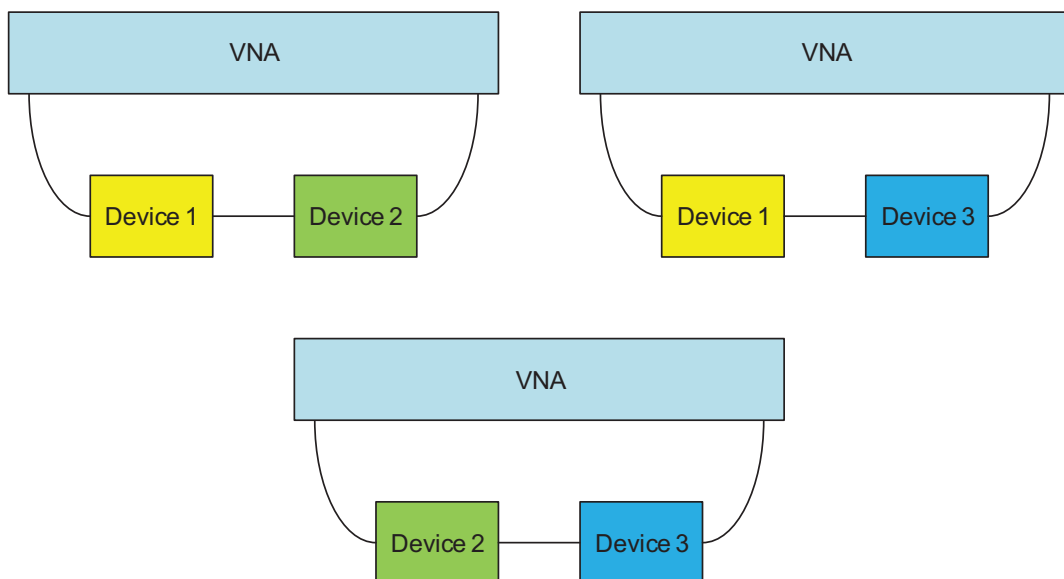
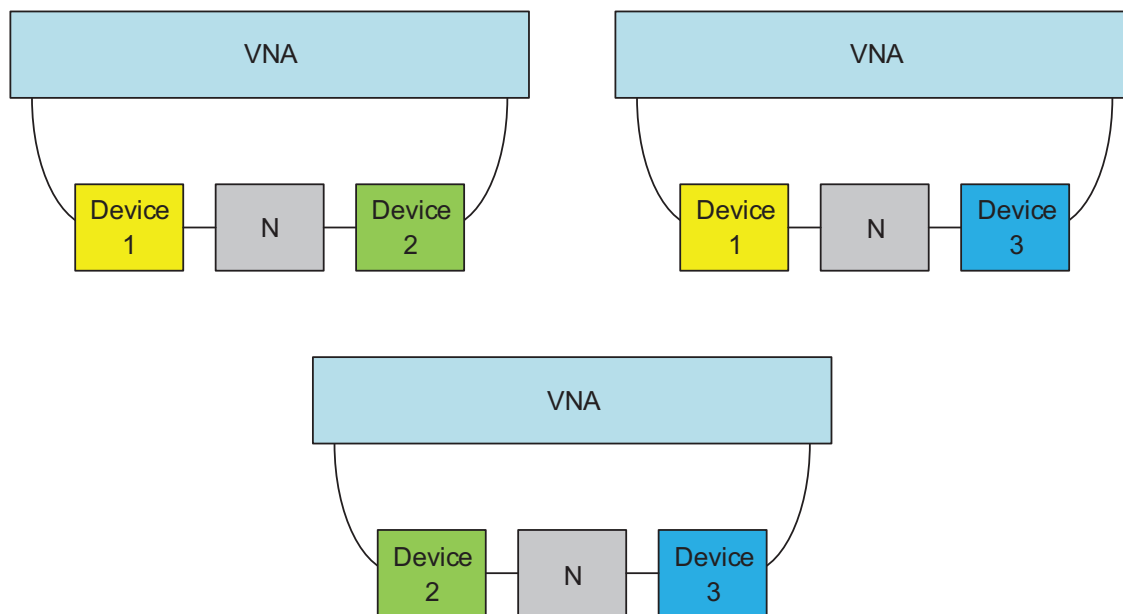
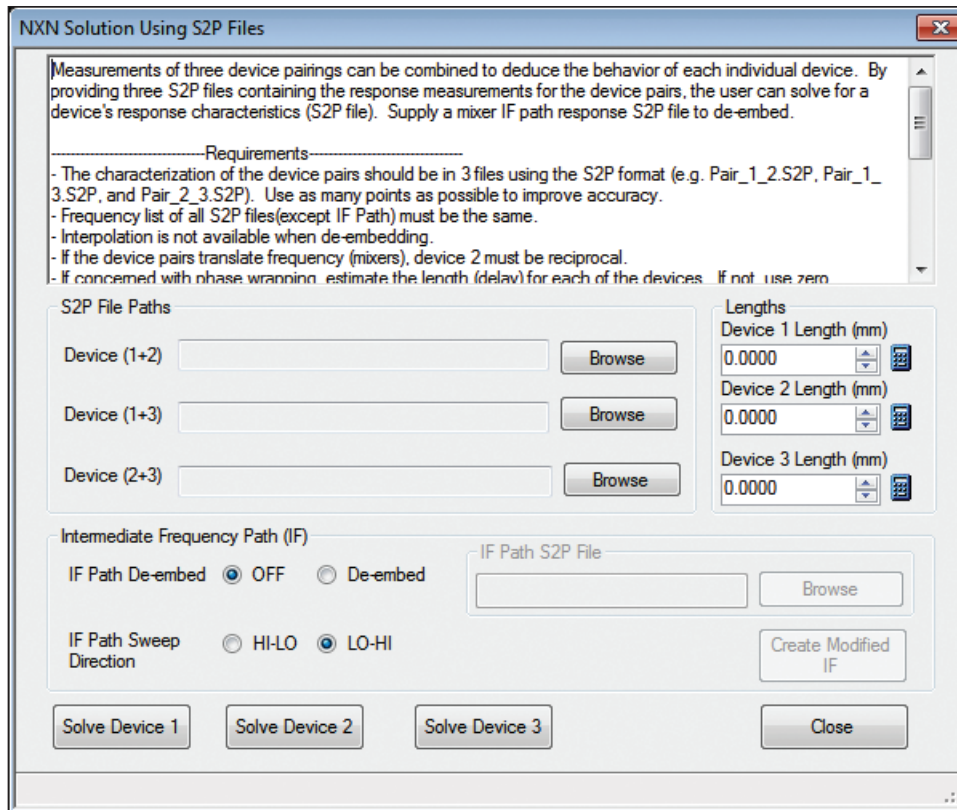
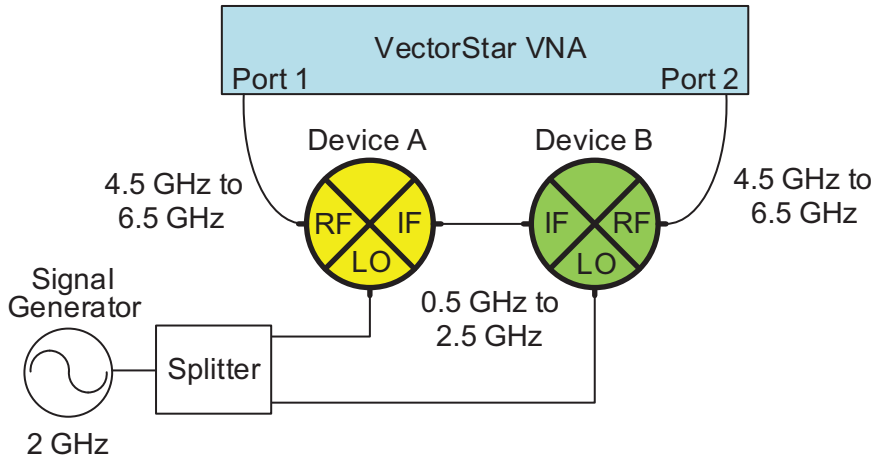

Figure 1: NxN Technique Measurements
Figure 2: Measurement Setup using an inner IF Network (N)
Figure 3: NxN Configuration Dialog
Figure 4: Measurement Configuration and Frequency Plan for Device Pairs
This application note provides a brief overview of the NxN method and how the application within the VectorStar™ MS464xB Series Microwave Vector Network Analyzer is used. The concept of the NxN technique is that there are three devices that need to be measured in pairs in order to obtain the transmission characteristics of each of the devices. The technique involves measurement of each pair of the N devices to obtain N sets of measurement data. The minimum number (N) of devices to start this technique is three. The information obtained on any one of the first three devices can then be de-embedded from any other device measurements in which this device is used as a reference. The measurements pairings to get started are shown in Figure 1. Note that Device 2 is required to be reciprocal.
If the devices are poorly matched, it may be necessary to place a pad or other network between them. As long as this inner network is present for all measurements and its S-Parameters are known, its effects can be removed. This technique was originally used in mixer measurements, hence it is termed an IF network. This measurement setup is shown in Figure 2. The three measurements required to execute NxN are shown here when using an inner network N (which may be a pad or filter combination). Device 2 is required to be reciprocal.
The nature of the frequency plan between the devices must be known if the IF network (N in Figure 2) is to be removed. If the first device is not performing an inversion (i.e., if the input signal ramps up in frequency, the output signal ramps up in frequency) then the lookup table of the IF network behavior is not inverted. If the first device does perform an inversion, then the lookup table of the IF network must be inverted.
Selecting the NxN button will open the main NxN dialog as shown in Figure 3. The measurements shown in Figure 1 or Figure 2 must first be performed and those measurement results saved as S2P files. The match information in these files will be ignored, but the file format for a full 2-Port measurement is used for convenience. These S2P files are entered in this dialog using the Browse buttons shown.
If the scheme of Figure 2 is used, then the inner or IF network must be specified. Select IF Path De-embed in this case and use the browse function to locate the S2P file for the IF network. Note that all of these S2P files must have the same number of points and the frequency range of the IF file must be appropriate for the IF sweep range between the devices. If the devices are non-converting, the frequency range of the IF file must match that of the other files.
The following measurement example uses the configuration and device pairings as shown in Figure 1, where an inner IF network is not used. The devices used in this example are passive mixers. These mixers do not need to be identical; however, their operational IF, RF, and LO frequency ranges need to be compatible. Also note that at least one of the mixers needs to be reciprocal (i.e. can be used as an up converter as well as a down converter). The measurement configuration and frequency plan of the device pairs for this example measurement is shown in Figure 4. The frequency plan was chosen so that an image reject filter is not needed in the IF plane. Notice that the VNA does not see any frequency translation.